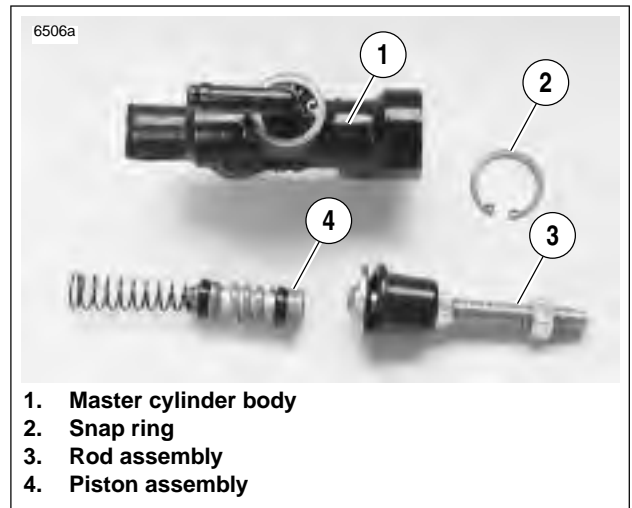

Figure 2-49. Master Cylinder Internals
1. See Figure 2-49. Slide rubber boot on rod assembly (3) away from master cylinder body (1).
2. Depress rod assembly (3) and remove internal snap ring (2). Discard snap ring.
3. Remove piston assembly (4) from master cylinder body.